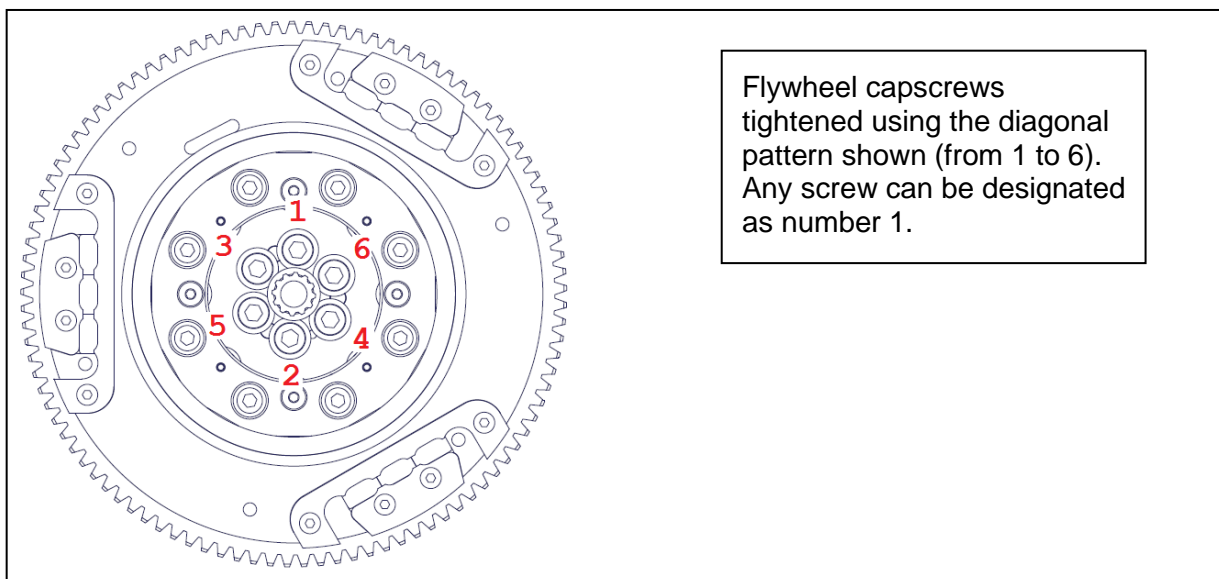

Figure 183 - Flywheel diagonal tightening pattern
- 1) Install the six capscrews with one plain washer up to **15 ft.lb** torque setting using the diagonal tightening pattern shown in Figure 183.
- 2) Tighten all six screws up to **Prescribed Torque setting** (Table 9) again using the diagonal tightening pattern in Figure 183.
- 6) Repeat previous three steps installing the other five screws ONE AT A TIME using the diagonal pattern order shown in Figure 183.
Install capscrews with 6 old plain washers to **15ft.lb** and then the **Prescribed Torque** (Table 9) progressively using diagonal pattern shown in Figure 183
Repeat for the other five screws ONE AT A TIME using the diagonal pattern shown in Figure 183